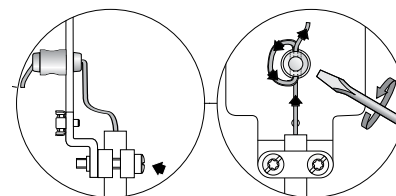

Figure 6: Cable Shortening
5. Feed aircraft cable back through safety catch making sure to complete one full loop and tighten locking screw. [Figure 6]